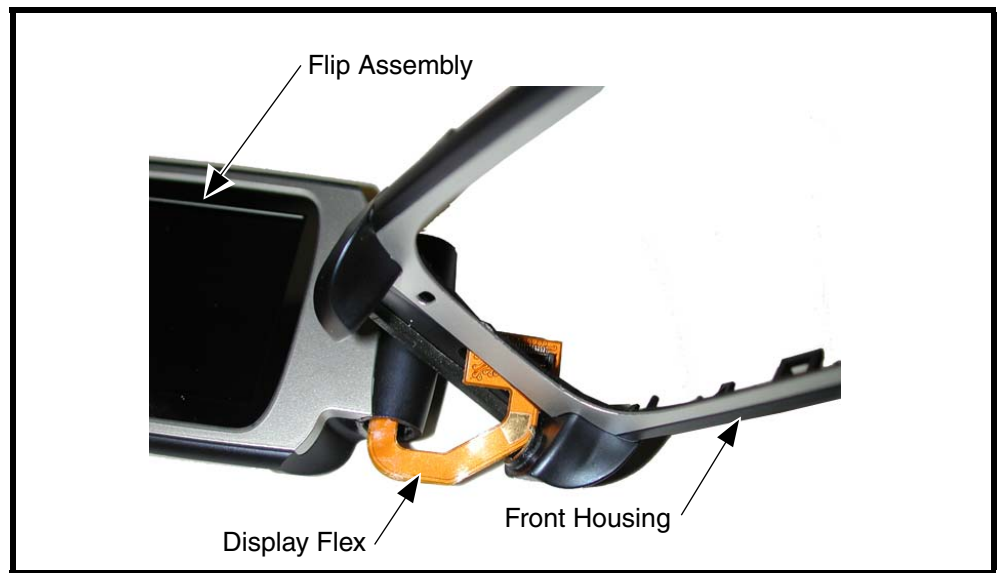

Figure 10. Removing the Flip Assembly
3. Carefully remove the flip assembly from the left knuckle on the front housing. Use extreme caution when removing the display flex from the front housing (see Figure 10).